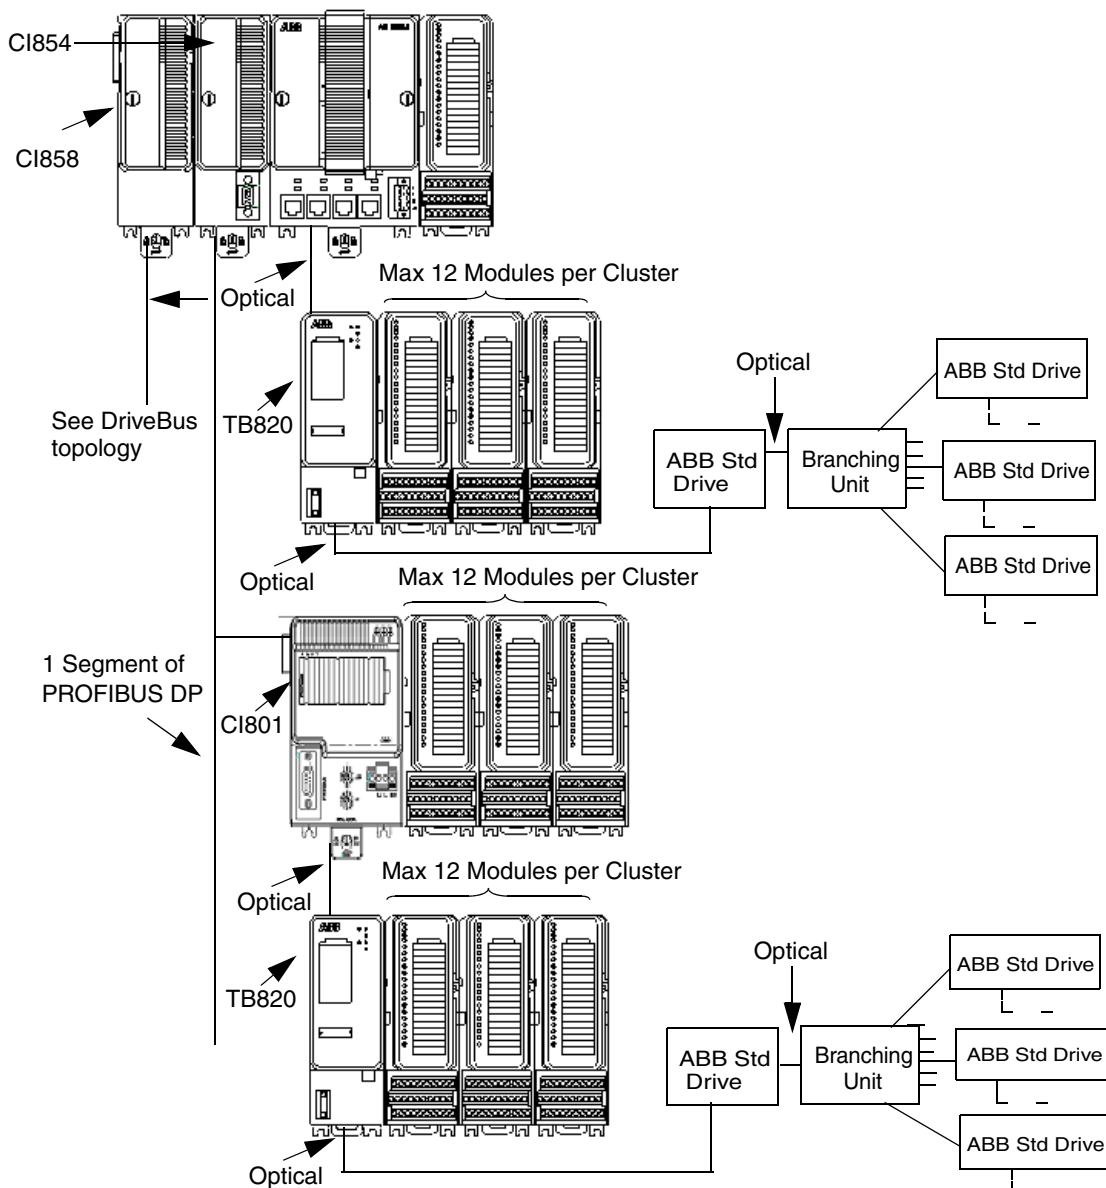
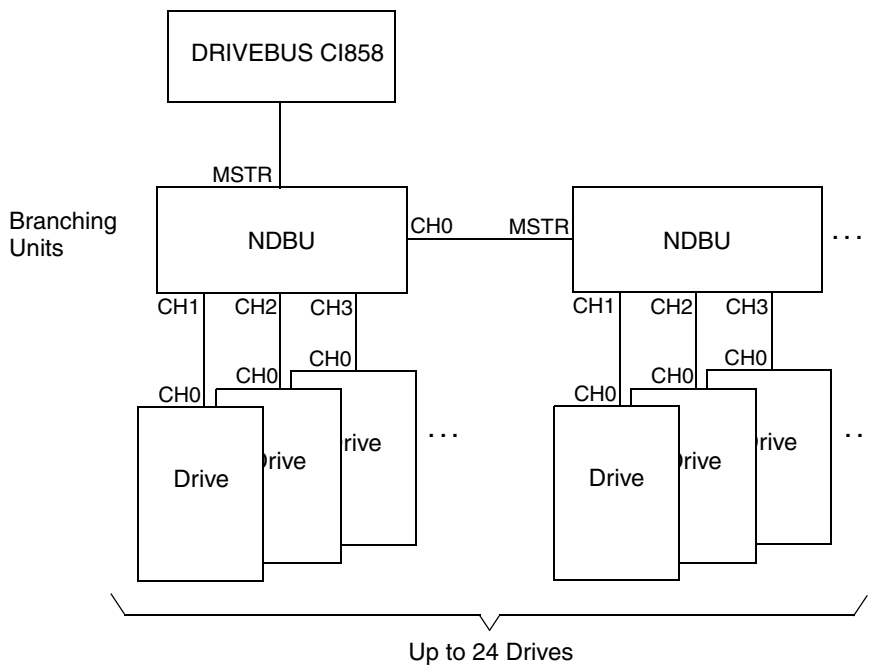

Figure 64. Example of Connection of ABB Drives in Single CPU Configuration
Figure 65. DriveBus Topology
In single CPU configuration, ABB Drives can be connected to the processor unit via the optical ModuleBus. See Figure 64 on page 178. The number of ABB Drives which can be connected to the optical ModuleBus, can be described by the following equation:
In single and redundant CPU configuration, ABB Drives can be connected via PROFIBUS DP and CI801. See Figure 64 on page 178. Only Standard Drives can be connected to CI801. Nine (9) Standard Drives can be connected to each CI801 if there are no I/O units connected. For the number of Drives that can be connected to the same CI801, when both I/O units (TB820) and Standard Drives are connected, refer to documentation about FCI for PROFIBUS DP.
For information about Branching Unit (Figure 64 on page 178) see ABB Drive System documentation.
ABB drives can be connected to the AC 800M via the CI858 unit, see Figure 64 on page 178 and Figure 65 on page 179. The drive interface can be used for controlling up to 24 drives or inverter units.
Connection of multiple drives requires the use of a branching unit, which enables the construction of a logical bus with physical star topology, see Figure 65 on page 179. The branching units can be chained.